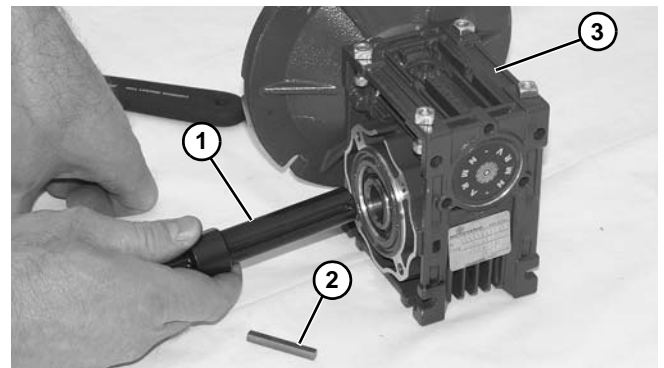

Figure 23
- Remove driveshaft (**Figure 23, item 1**) and key (**Figure 23, item 2**).
- Replace gear reducer (**Figure 23, item 3**).
12. Replace the original shaft components into new gear reducer (Figure 23).